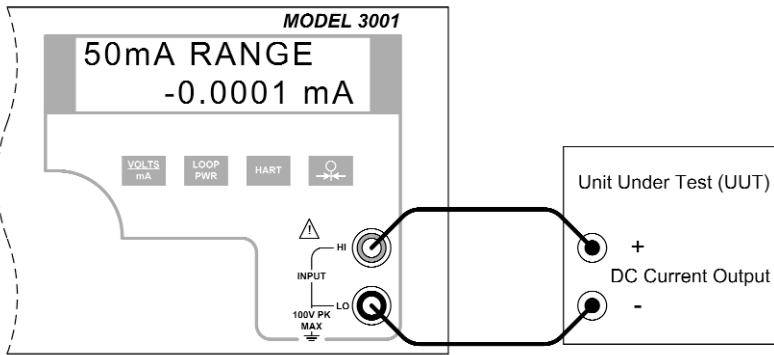

Figure 18 - Isolated DC Current Input Connection
- Connect the unit under test to the isolated voltage/current input terminals of the 3001 as shown in figure 18.